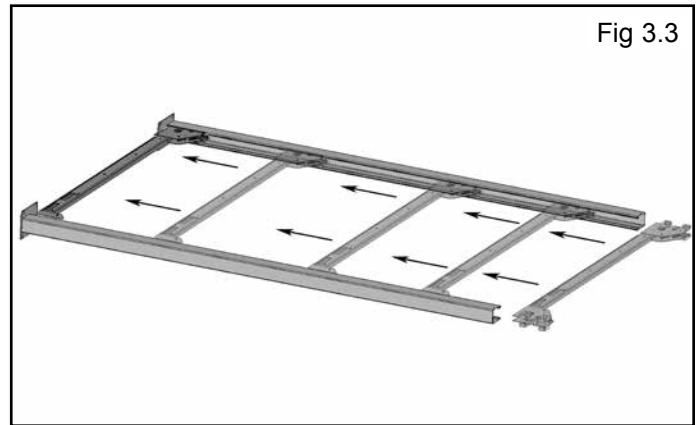

Fig 3.3
3. Lay the columns down, and slide the Cross Tubes into the Columns (making sure the Plastic Slide Blocks are still in position). NOTE: The Sheave Windows should be positioned inward and adjacent the Power Unit Column. Refer to the Assembly View illustration on page 8 to ensure the proper location and orientation of the Cross Tubes and sheave windows. (See Fig. 3.3)